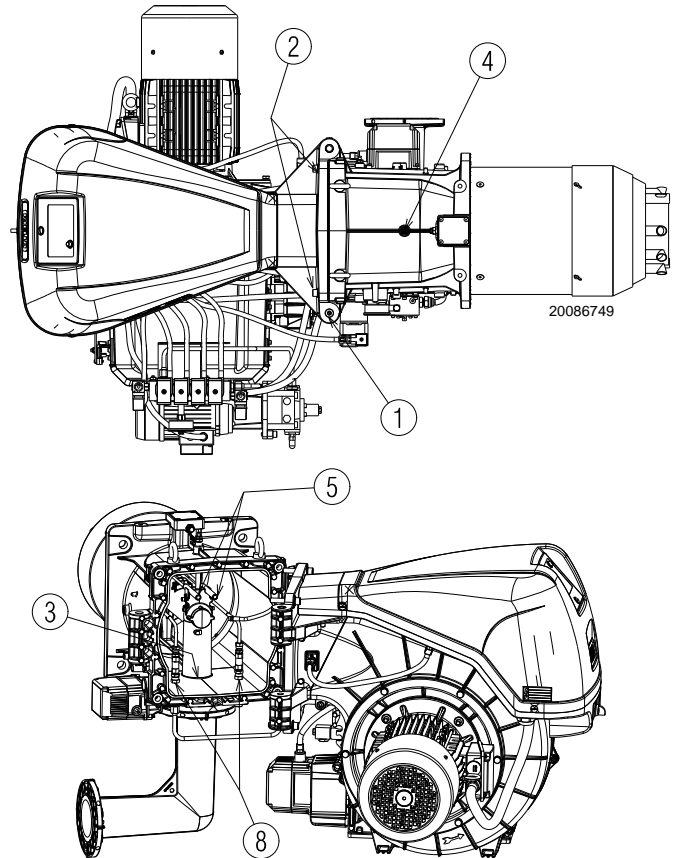

Fig. 18
The burner leaves the factory set for opening to the right, therefore maintaining the pin 1)(Fig. 18 on page 26) in its housing.
- C** Fully open the burner as in Fig. 18 on page 26;
To open the burner from the opposite side, before removing the pin 1)(Fig. 18 on page 26), make sure that the 4 screws 2) are tight. Then shift the pin 1) to the opposite side, only then is it possible to remove the screws 2). Disconnect the socket 9 (Fig. 18 on page 26) of the maximum gas pressure switch, then proceed as described above at point **C**).